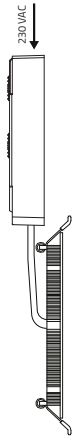

Abb. 2
2. An die Primärseite des Converters die vorhandene 230 V AC Netzspannung anschließen (Abb. 2).
2. Connect the TALAN recessed downlight to the secondary side line of the converter using the connector supplied with the matching counterpart of the connector. Connect the existing 230 V AC mains voltage to the primary side of the converter (fig. 2).